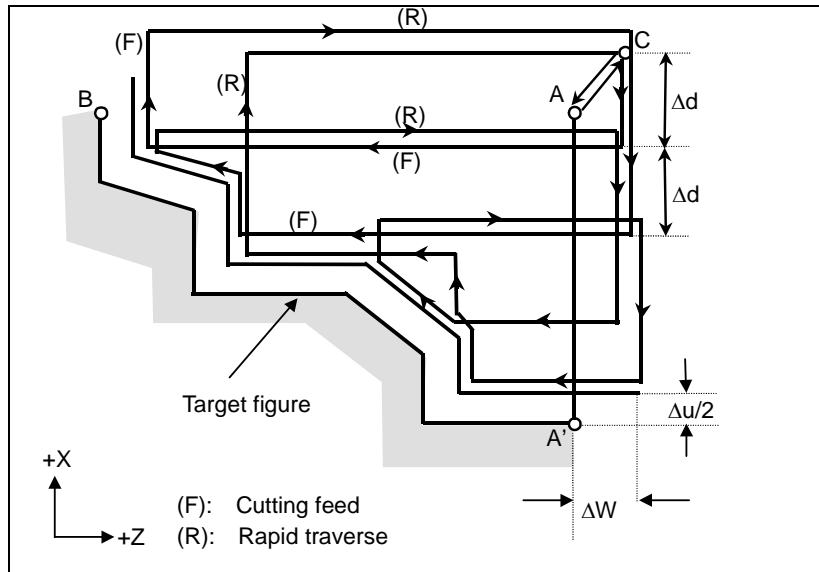

Fig. 6.4.1 (f) Cutting path in stock removal in turning (type II)
- (1) When the rough cutting finishing allowance is not specified
Cutting is performed by depth of cut  $\Delta d$  with finishing allowances  $\Delta u/2$  and  $\Delta w$  left, and the tool returns to the start point (A) after the last cutting is performed (one pocket is assumed because  $P_n \rightarrow P_m$  is parallel to the z-axis in the Fig. 6.4.1 (f), and the zone is cut). Then, rough machining as finishing is performed according to the finishing figure program with finishing allowances  $\Delta u/2$  and  $\Delta w$  left.
- (2) When the rough cutting finishing allowance is specified